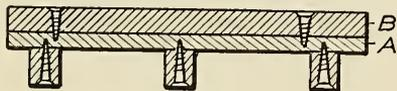

FIG. 1
The first thing to do is to get a piece of asbestos board one-half inch thick and cut out a circle 12 inches in diameter. This is the part (A), Fig. 1. To the bottom of this screw three one-inch porcelain insulators for feet.
From a piece of $\frac{3}{4}$ -inch asbestos cut a ring (B) Figs. 1 and 2, 12 inches in outside diameter and nine inches inside diameter. Screw this down on (A) with three or four screws.